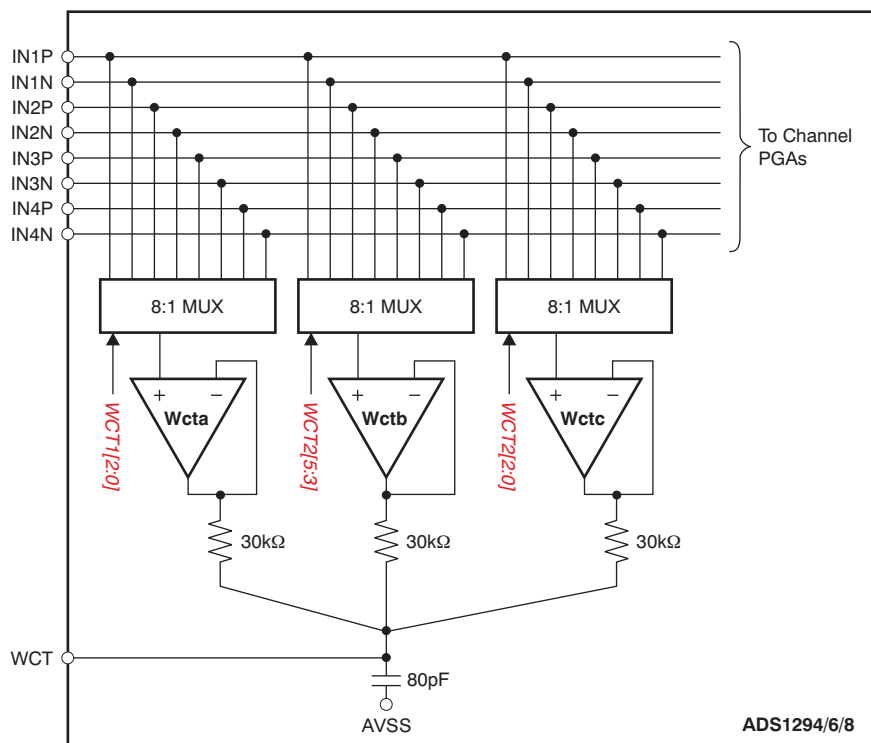

Figure 60. WCT Voltage
In the standard 12-lead ECG, WCT voltage is defined as the average of Right Arm (RA), Left Arm (LA), and Left Leg (LL) electrodes. This voltage is used as the reference voltage for the measurement of the chest leads. The ADS129x has three integrated low-noise amplifiers that generate the WCT voltage. Figure 60 shows the block diagram of the implementation.